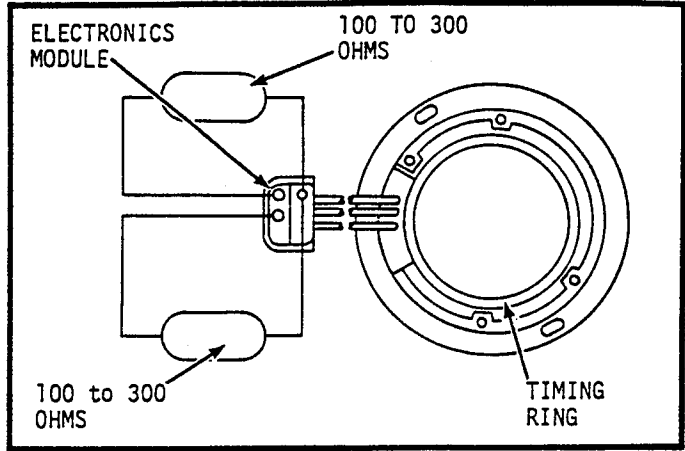

FIGURE 3-9 -- TIMING RING TEST
STEP 1: Unplug the three-lead connector from the electronics module and make the following checks at the connector on the wiring harness. Connect the ohmmeter leads between the red lead terminal and the white lead terminal. The ohmmeter should indicate between 100 and 300 ohms. Connect the ohmmeter leads between the white lead terminal and the black lead terminal. The ohmmeter should indicate between 100 and 300 ohms. Connect one ohmmeter lead to the engine block. Then check the three terminals with the other ohmmeter lead. The ohmmeter must indicate an open circuit (infinity) at all three terminals. (See Fig. 3-9) If these readings are not obtained, the timing ring assembly is defective and must be replaced.